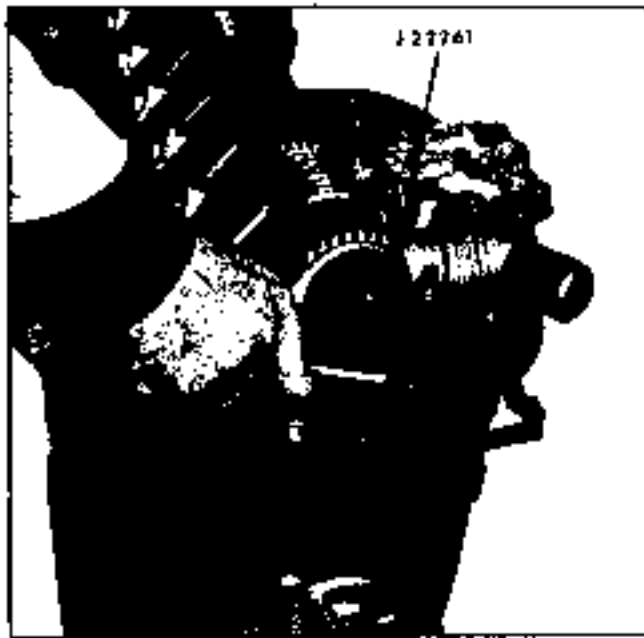

Fig. 6-13 Removing Camshaft Seal
7. Thread tool J 22261-2 into camshaft seal (Fig. 6-13).